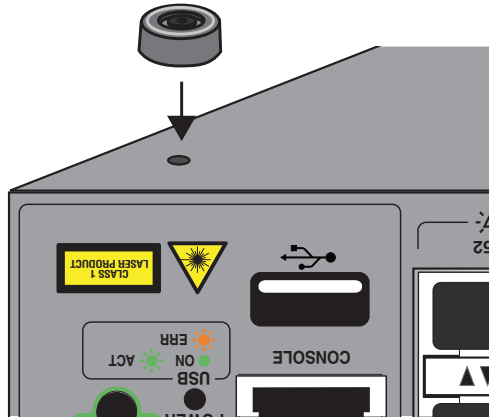

Figure 25. Placing the Bumper Foot on a Base Corner Hole
3. Place the bumper foot with rivet housing onto one of the holes in the base of the switch. Refer to Figure 25.